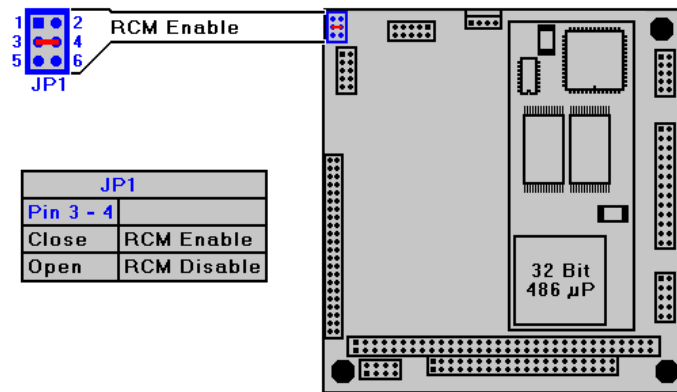

Figure 4: Position of the RCM jumper
Before you begin the cable installation between the DIL/NetPC Starterkit and the development system the RCM jumper should be fitted on the CP/486SX2 base board. The figure 4 shows you the position of this jumper. As default this jumper is fitted already before the delivery.
The RCM operating mode is only activated if jumper JP1 is placed. Figure 4 shows this state. The jumper JP1 of the CP/486SX2 base board is directly combined to the corresponding pins at the ADNP/1486. If this jumper is not placed, the COM1 port can be used by a customer-specified application. Please consider that JP1 will only be scanned by the BIOS during the boot procedure of the DIL/NetPC – for example after a reset.
- Figure 4: Position of the RCM jumper